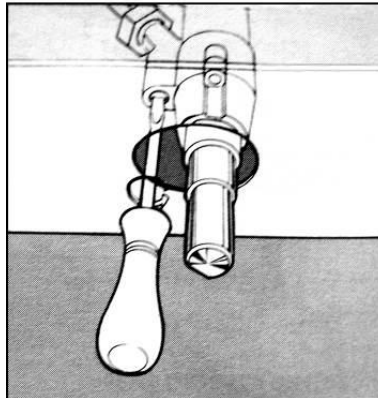

Fig. 12
3. Adjust the screw with a flat-blade screwdriver as figure 12.